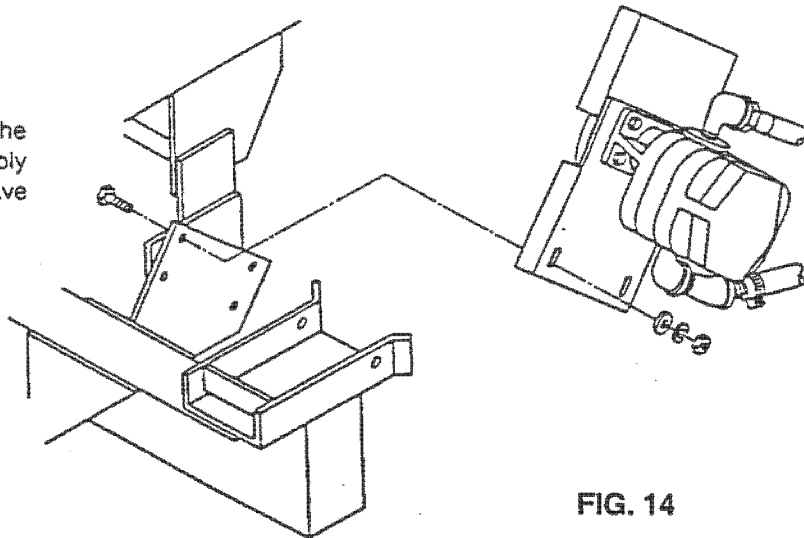

FIG. 14
- Loosen the capscrews that secure the pump assembly to the pump mount plate on the sub-frame. Remove the pump assembly and place near the upright on the left side of the tractor. Leave the hoses connected. (See Fig. 14).